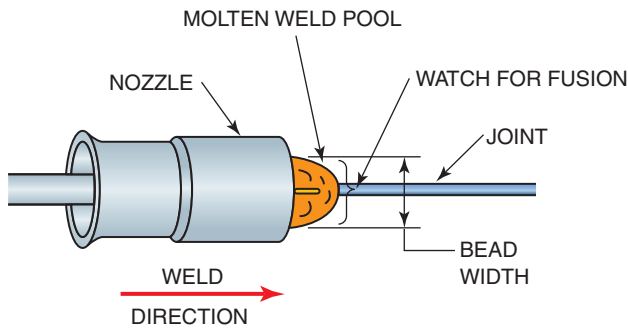

Figure 3.21 Welder's view with a forehand angle
- Joint visibility—You can easily see the joint where the bead will be deposited, Figure 3.21.